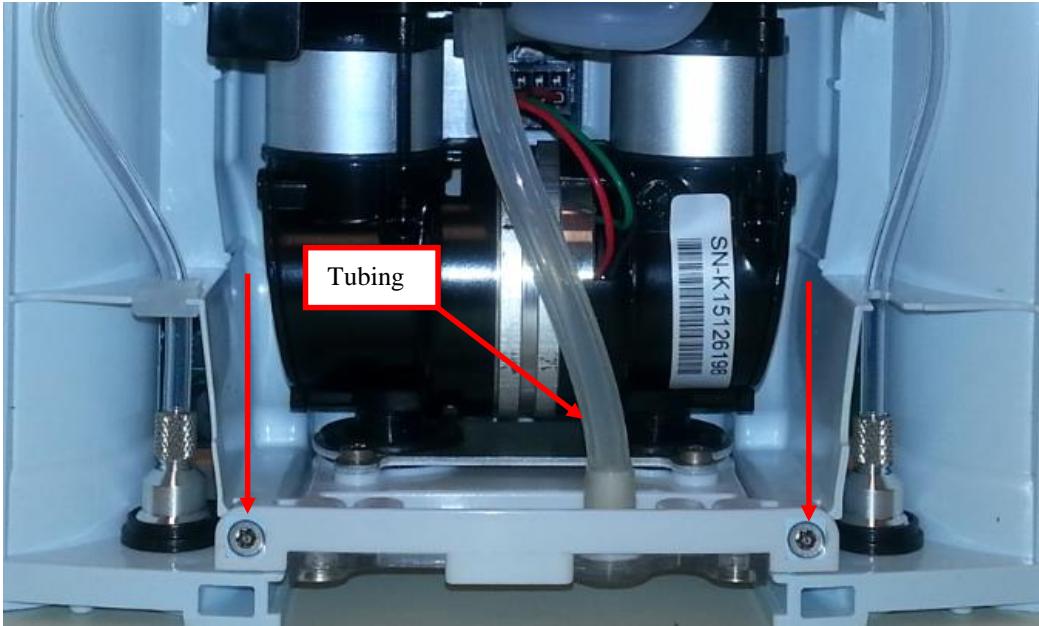

Figure 4: Front filter body screws and tubing
4. Unscrew the two screws attaching the filter body to the chassis and unplug the tubing from the filter body (Figure 4). Plug this tube onto the same barb on the new filter body
4. Replace the two screws attaching the Filter Body to the Chassis (Figure 4.) Torque to 6 in-lbs.